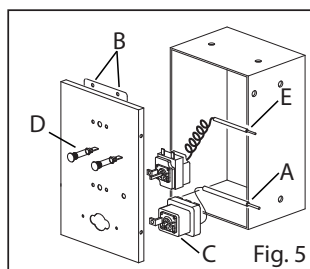

Fig. 5
- Remove the valve bulb from the tank (Fig. 5/A)
- Remove the cover (Fig. 5/B)
- Unscrew the thermostat off the cover and remove it (Fig. 5/C)
- Remove the valve bulb from the tank (Fig. 5/E)
- Install the new globe (Fig. 5/D)